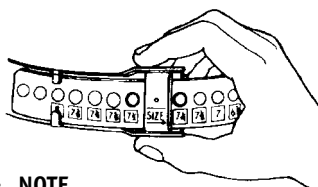

Figure 4
2. Squeeze the buckle to disengage sizing mechanism, and place headband suspension on your head. Continue squeezing buckle while pulling headband suspension down over your head. Headband suspension automatically adjusts to your size and locks when you release your grip (see Figure 4). Headband suspension should feel comfortable and snug.